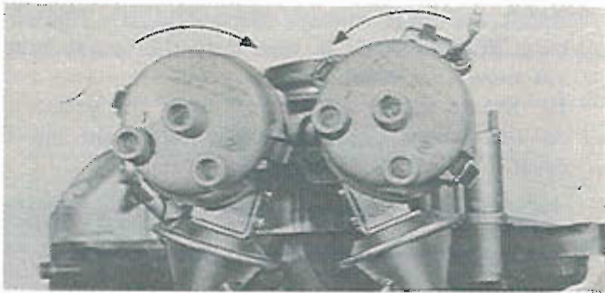

Fig. 1-14 Adjusting of ignition timing
24. Rotate each distributor slightly in the direction shown in Fig. 1-14 and stop it when the contact points start to separate. Then, tighten the lock nut for each distributor.